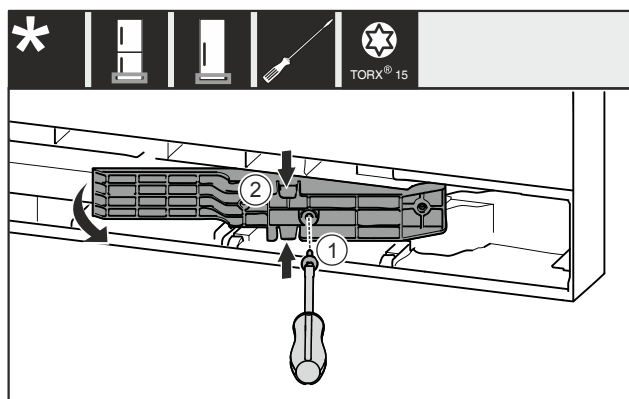

Fig. 18
- Remove the screw Fig. 18 (1).
- Gently press the adapter piece Fig. 18 (2) together at the top and bottom and pull it out.